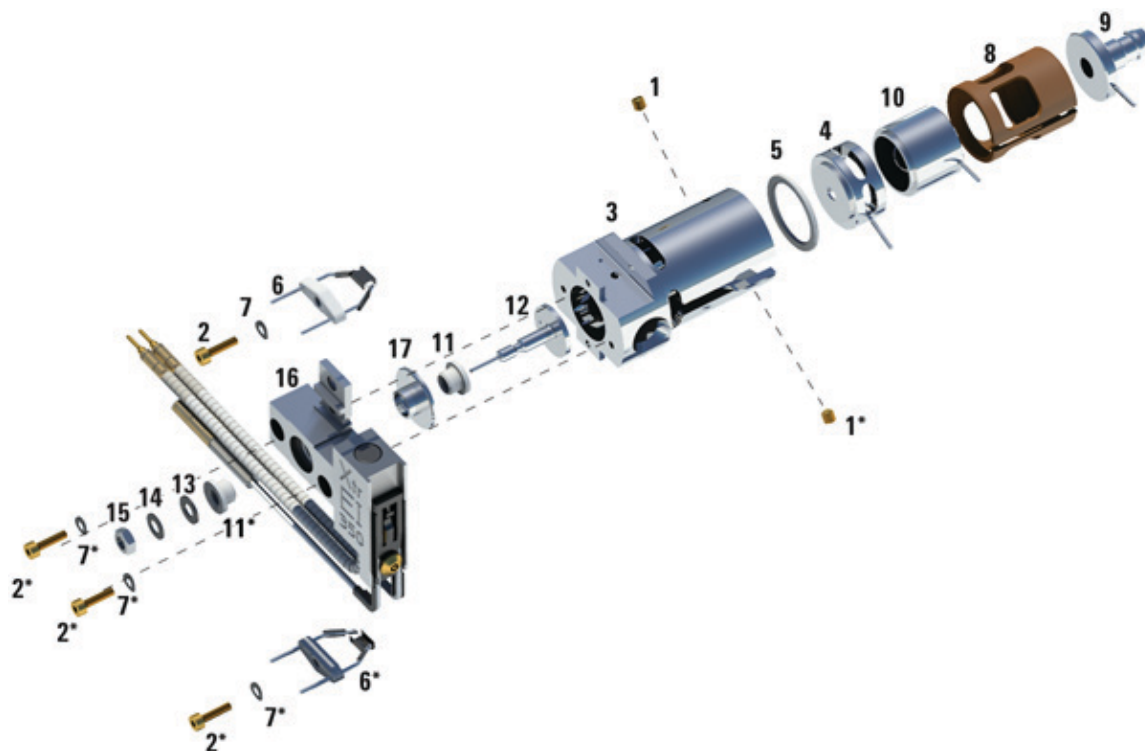

Figure 59. Assembling the EI XTR source
Refer to the exploded parts view and the EI XTR parts list while using this procedure. (See Figure 59 and Table 18 on page 183.)
- 1 Assemble the ion focus lens, extended entrance lens, and lens insulator. (See Figure 59 and Table 18 on page 183.)
- 2 Attach the extractor lens insulator to the extractor lens, and slide them into the source body. (See Figure 59 on page 183.)
Table 18 Parts list for EI XTR source (Figure 59)
Table 18 Parts list for EI XTR source (Figure 59) (continued)